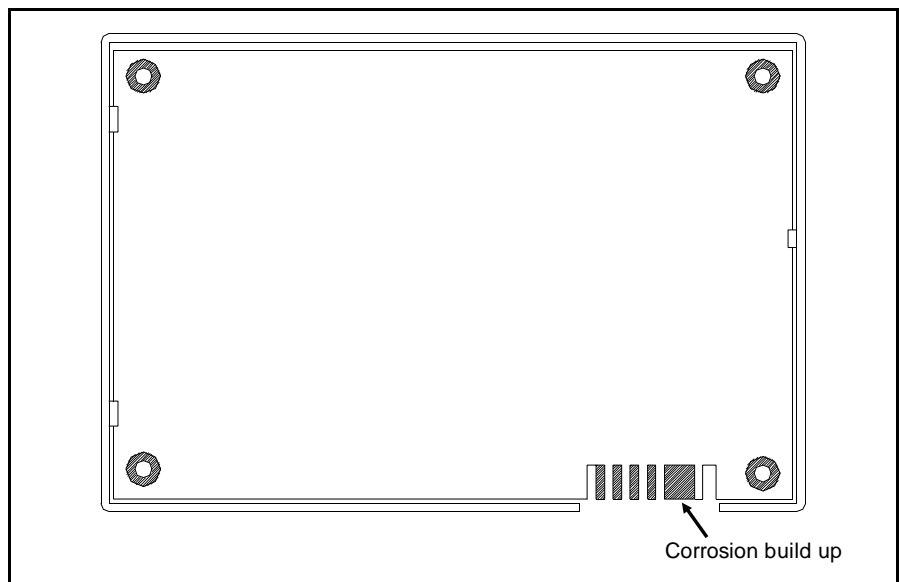

Figure 4.39 Edge Connector Location
- E. Check for corrosion build-up at the connection point (Edge Connector) of Ignition Module. See Figure 4.39. If corrosion is visible at connection point, clean with eraser of pencil. At the same time, the connections to the PC Board should be checked.